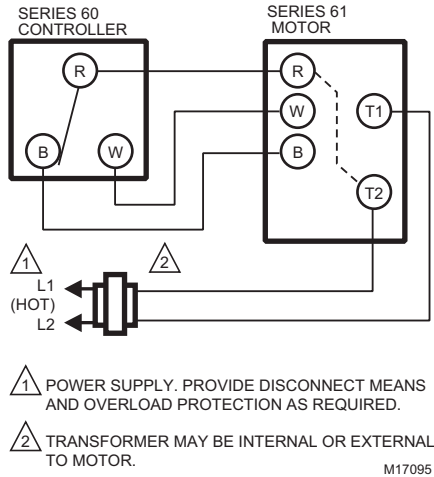
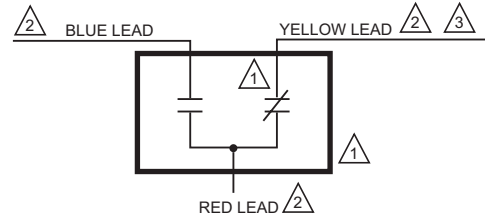

Fig. 6. Series 61 motor wiring.
Fig. 9. Auxiliary switch schematic.
5. Refer to Fig. 6 for typical wiring, and Fig. 9 for internal auxiliary switch connections.
Motors with factory-added auxiliary switches are shipped in the closed position (fully counterclockwise, as viewed from the power end). Auxiliary cam default actuates the switches 30° from fully open with a 1° differential. With the motor in the closed (fully counterclockwise) position, the auxiliary switch breaks contacts R-B. See Fig. 9 (or the auxiliary switch Installation Instructions) for auxiliary switch wiring.